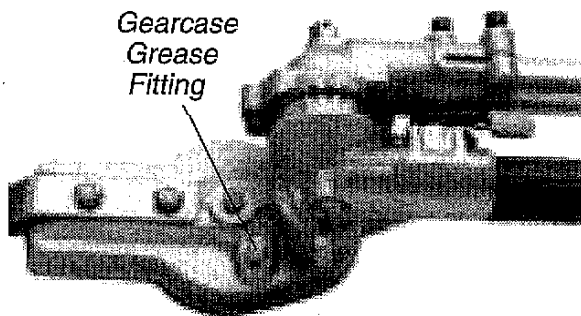

Figure 13
- Lubricate the cutter assembly gearbox by pumping one or two strokes of lithium-base grease into the grease fitting using a lever-type grease gun. See Figure 13.